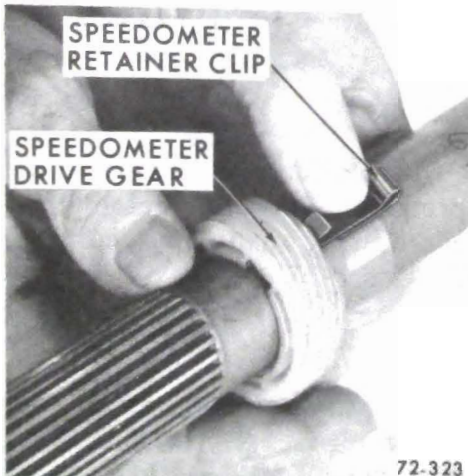

Figure 72-323 Installing Speedometer Drive Gear
10. Install speedometer drive gear retainer clip. Align slot in speedometer drive gear with retainer clip and install. See Figure 72-323.